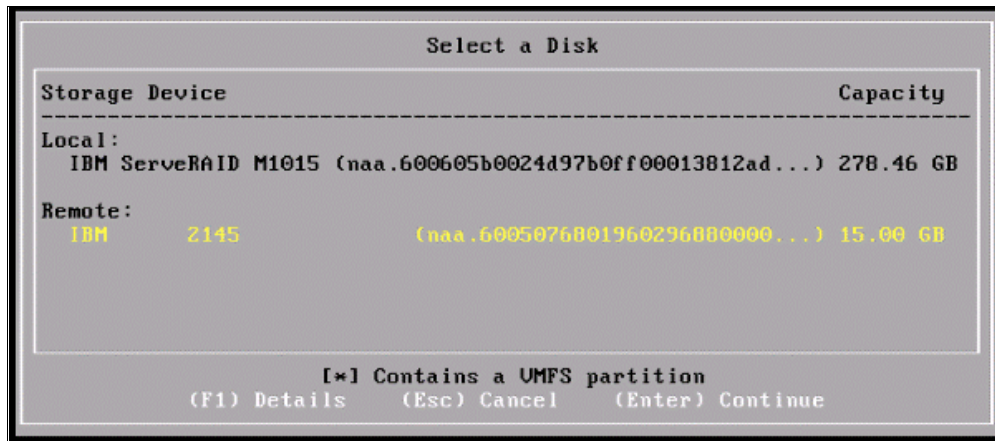

Figure 5-87 SAN Volume Controller or Storwize V7000 LUN as target for boot
3. Select the **Remote** volume (2145 for Storwize V7000 and SAN Volume Controller (SVC)) as the target for installation, as shown in Figure 5-87.